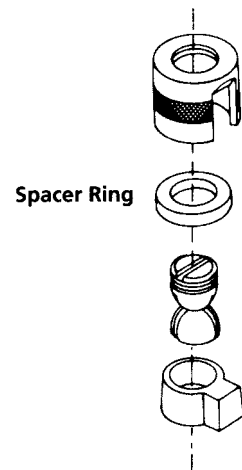

Fig. 15
8. For resilient application, place the 0.5mm thick spacer ring inside the male's retention sleeve and re-seat the male in the female (Fig. 15). For non-resilient application - do not use the spacer ring.